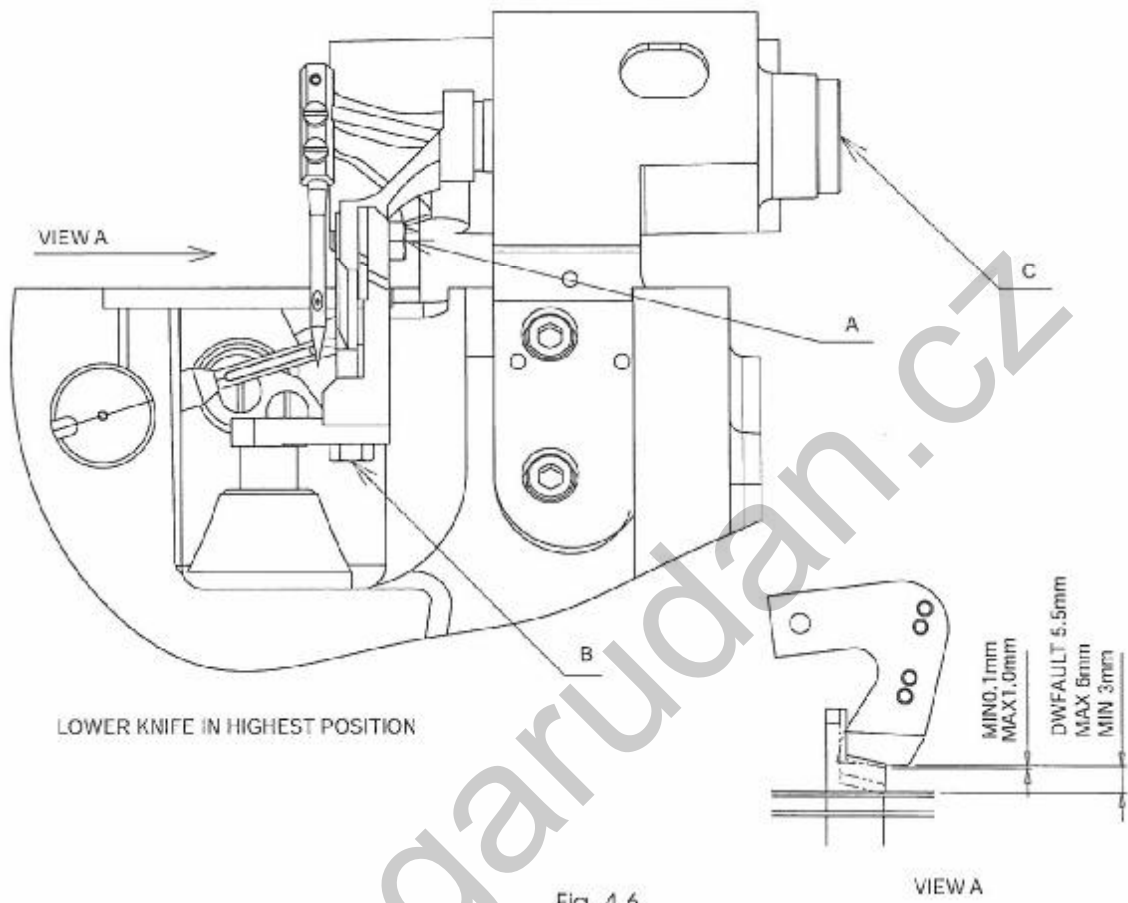

Fig. 4.6
1. Loosen the screw C (see FIG 4.6).
1. Unscrew the screw B (see FIG 4.6) retaining the lower knife.
With the needle having reached its lowest stroke, ensure that the lower knife protrudes 6 to minimum 3 mm above the needle plate (see FIG 4.6). If this is not the case renew both knives.